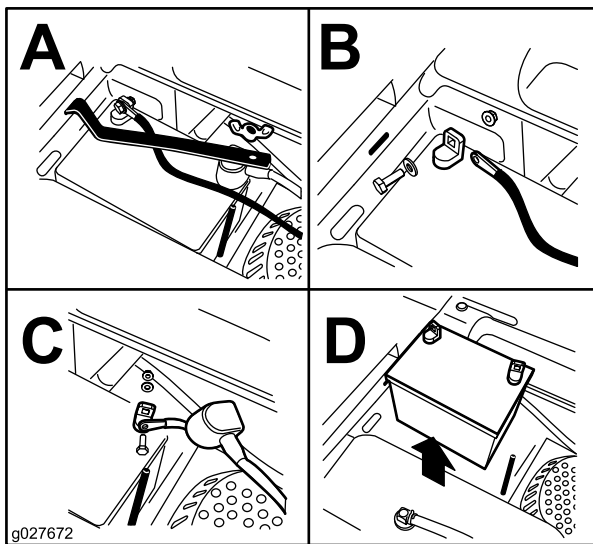

Figure 43
3. Remove the wing nut securing the battery clamp (Figure 43).
4. Remove the clamp (Figure 43).
5. First disconnect the negative battery cable (black) from the negative (-)(black) battery terminal (Figure 43).
6. Slide the red terminal boot off the positive (red) battery terminal and remove the positive (+)(red) battery cable (Figure 43).
1. Position the battery in the tray with the terminal posts opposite from the fuel tank (Figure 43).
4. Secure the cables with 2 bolts, 2 washers, and 2 locknuts (Figure 43).
6. Install the clamp and secure it with the wing nut (Figure 43).